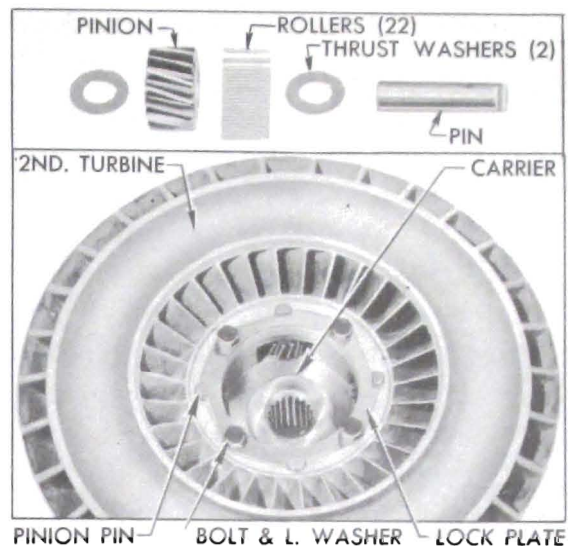

Figure 4-17—Second Turbine Parts
3. Remove four bolts with lockwashers and the pinion pin lock plate from second turbine. See figure 4-17. It is not necessary to remove the turbine from carrier at this time.
4. Remove pins, then remove the four planet pinions and thrust washers from turbine carrier. Remove bearing rollers (22) from each pinion. See figure 4-17.
ters the notches of all pins, then install the four turbine-to-carrier bolts with lockwashers. See figure 4-17.